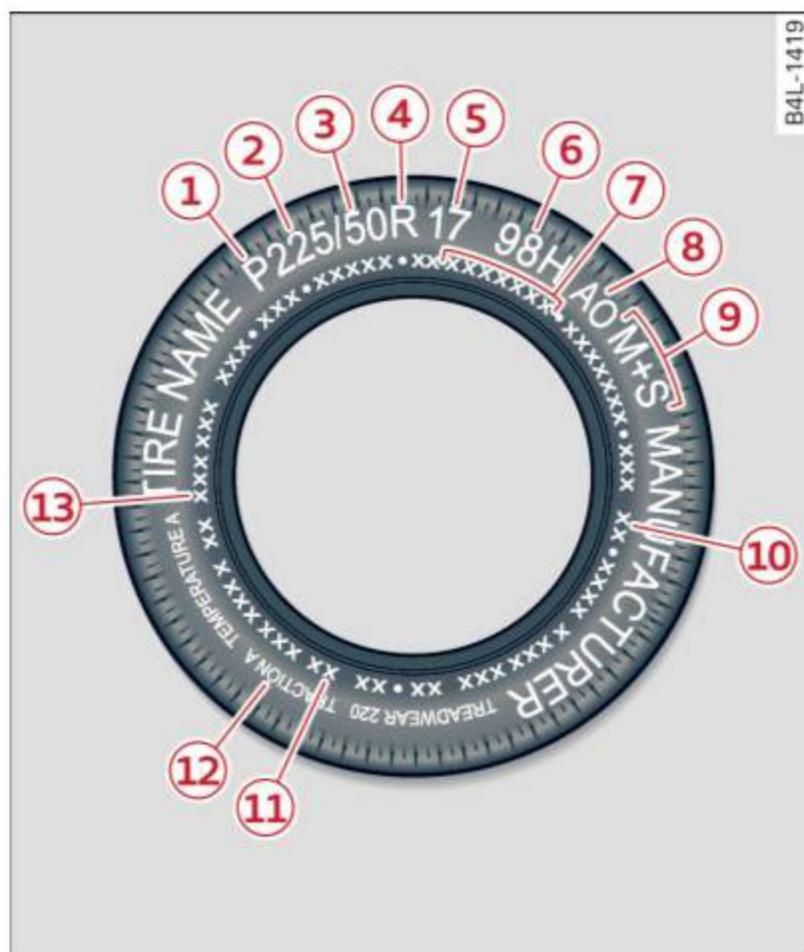

Fig. 195 Tire specification codes on the sidewall of a tire
- ▶ Check the tire sidewall (⇒ *page 246, fig. 195*) to determine the designated load rating for a specific tire.
Federal law requires tire manufacturers to place standardized information on the sidewall of all tires ⇒ *fig. 195*. This information identifies and describes the fundamental characteristics, the quality grade of the tire and also provides a tire identification number ►
Quality grades can be found where applicable on the tire side wall between tread shoulder and maximum section width ⇒ *page 246, fig. 195.*